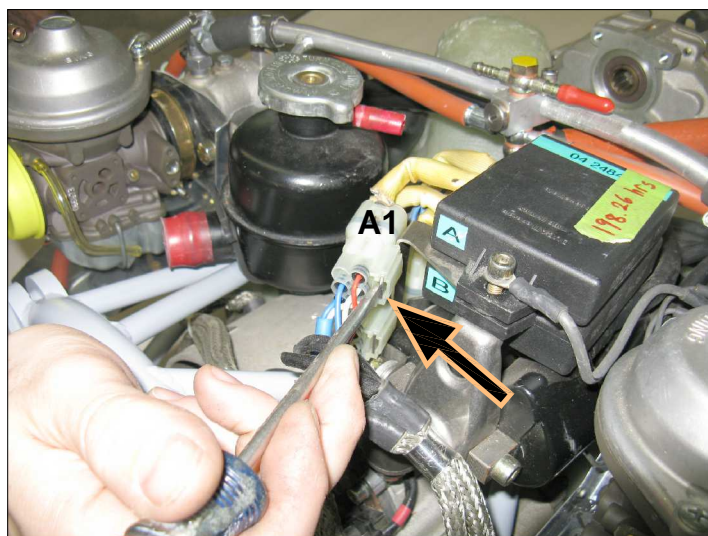

FIGURE 2: REMOVE CONNECTORS
Step 4: Remove the A1 & B1 electrical connectors from the ignition module metal mounting bracket by gently prying the tab at the shielded harness end (arrow) toward the connector and slide them off the bracket. See Figure 2.